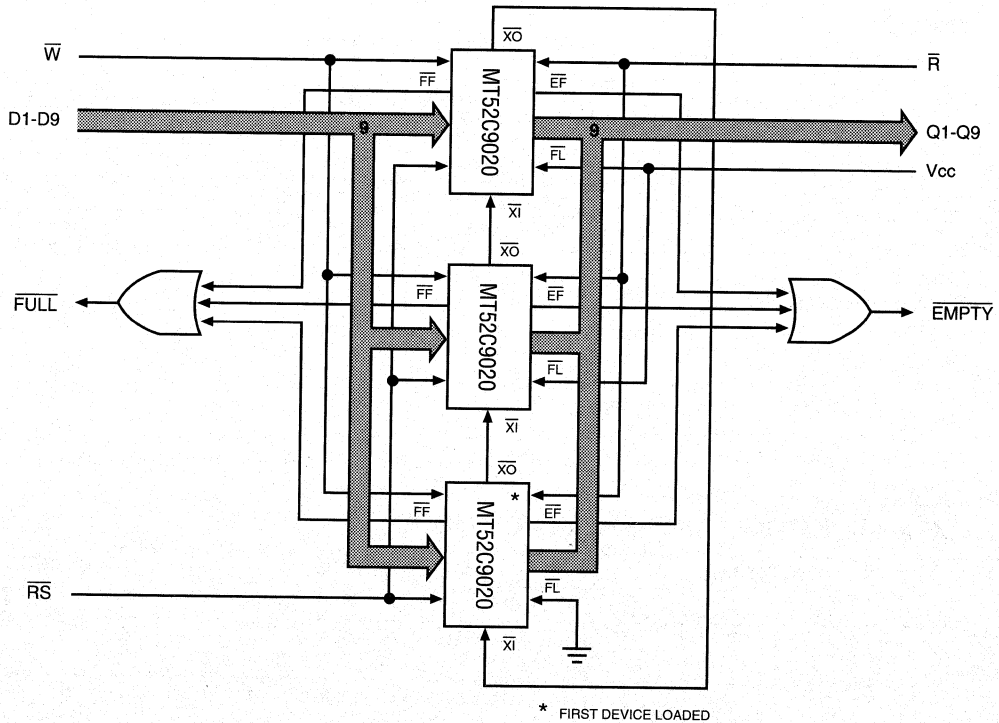

Figure 1
The FIFO word width can be expanded, in increments of 9 bits, using either the stand alone or groups of expanded-depth mode FIFOs. Expanded-width operation is achieved by tying devices together with all control lines (\bar{W} , \bar{R} , etc.) in common. The flags are monitored from one device or one expanded-depth group (Figure 1) when expanding depth and width.
Multiple MT52C9020s may be cascaded to expand the depth of the FIFO buffer. Three pins are used to expand the memory depth, $\bar{X}1$, $\bar{X}0$ /(HF) and $\bar{F}L$ /(RT). Figure 1 illustrates a typical three-device expansion. The DEPTH EXPANSION mode is entered during a RESET cycle, by tying the $\bar{X}0$ /(HF) pin of each device to the $\bar{X}1$ pin of the next device in the chain. The first device to be loaded will have its $\bar{F}L$ /(RT) pin grounded. The remaining devices in the chain will have $\bar{F}L$ /(RT) tied HIGH. During RESET cycle, $\bar{X}0$ /(HF) of each device is held HIGH, disabling reads and